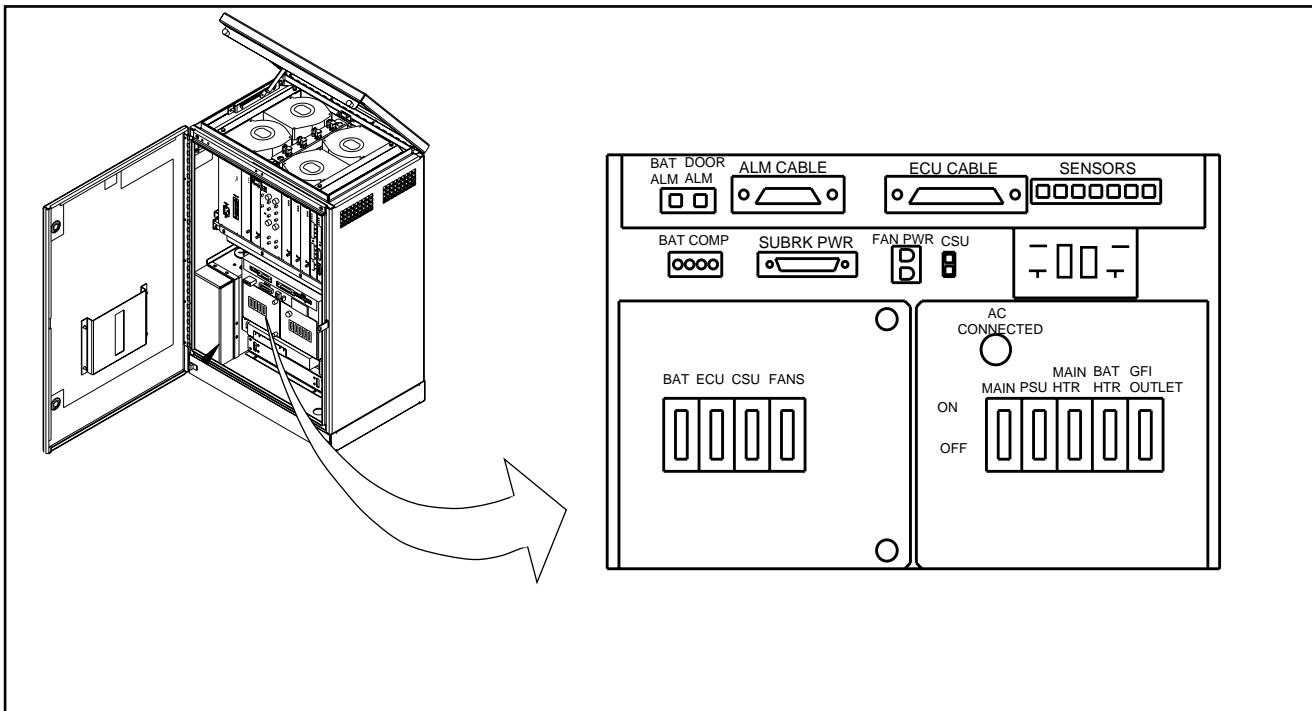

Figure 5-22. AC/DC Distribution Box
3. Place the **BAT** circuit breaker on the left side of the AC/DC Distribution Box in the OFF position. See Figure 5-22 on page 5-45.
4. Place the **BAT HTR** circuit breaker on the right side of the AC/DC Distribution Box in the OFF position. See Figure 5-22 on page 5-45.